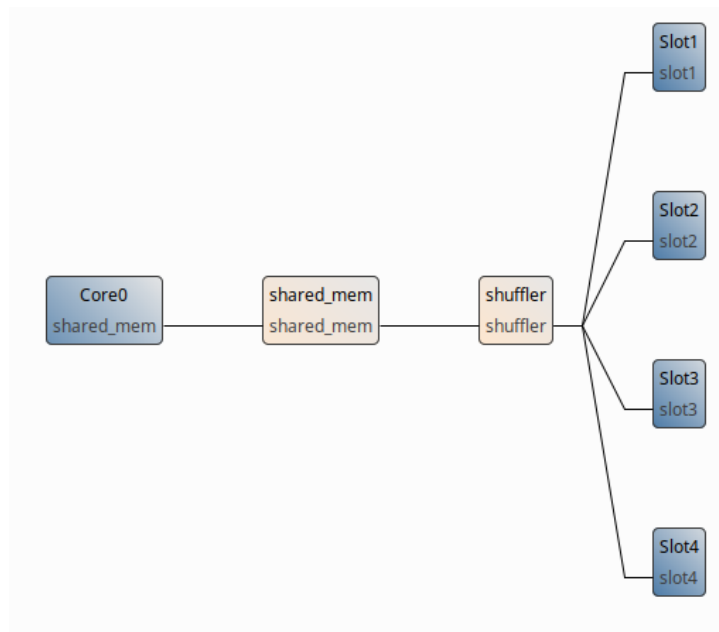

Figure 6: Architecture: one CPU and four ARTICo³ slots.
1. **Open the S-LAM:** Within the folder > **Archi**, double click on the file **ARTICo3_4.slam** file: the PiSDF of the image processing algorithm will be displayed (Fig. 6).
In the tutorial, a SLAM is proposed with one CPU and four ARTICo³ slots (Fig. 6).